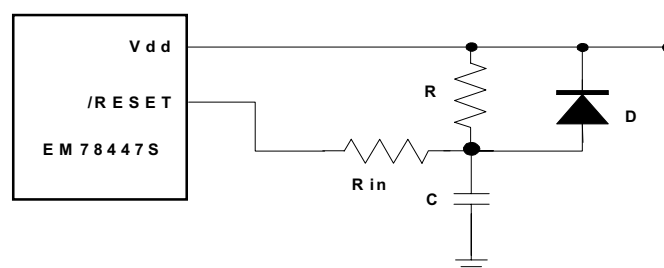

Fig. 15 External Power-Up Reset Circuit
For some applications that do not need a very precise timing calculation, the RC oscillator (Fig. 15) offers a lot of cost savings. Nevertheless, user should be aware that the frequency of the RC oscillator is influenced by the supply voltage, the values of the resistor (R_{ext}), the capacitor (C_{ext}), and even by the operation temperature. Moreover, the frequency also changes slightly from one chip to another due to the manufacturing process variations.
The circuit shown in Fig.15 implements an external RC to produce a reset pulse. The pulse width (time constant) should be kept long enough to allow V_{dd} to reach minimum operation voltage. This circuit is used when the power supply has a slow rise speed. Because the current leakage from the /RESET pin is about $\pm 5\mu$ A, it is recommended that R should not be great than 40 K. In this way, the voltage at Pin /RESET is held below 0.2V. The diode (D) acts as a short circuit at power-down. The capacitor, C, is discharged rapidly and fully. R_{in}, the current-limited resistor, prevents high current discharge or ESD (electrostatic discharge) from flowing into Pin /RESET.